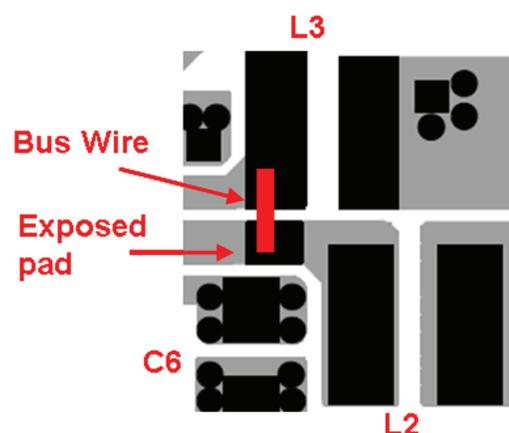

Figure 9. Buck2 and Buck3 Combined Setup
4. Short SW2 to SW3 with a solid 24 AWG or larger bus wire between the exposed pad and the SW pad on L3 as shown in Figure 9.